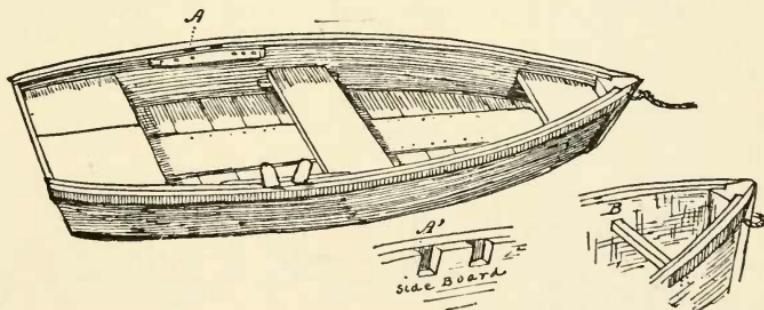
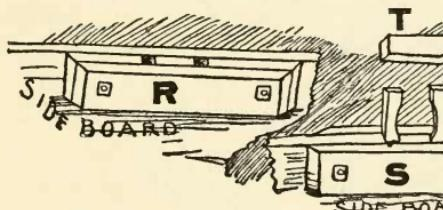
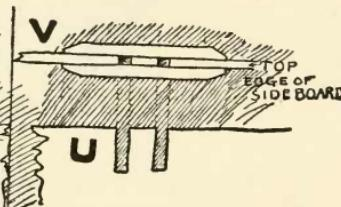

Fig. 191.—Finished skiff.
Fig. 203.
Fig. 204.
Turn the boat upside down, and it will be discovered that the outlines of the bottom form an arch from stem to stern. If left in this shape the boat will sink too deep amidship. Remedy the defect by planing the bottom edge of both side pieces, reducing the convex form to straight lines in the middle. This will allow the bow and stern to sheer, but at the same time will make the central part of the bottom flat, and, by having less to drag through the water, make it easier to row. Nail the bottom-boards on crosswise, and as, on account of the form of the boat, no two boards will be of the same size, they must be first nailed on and the projecting ends sawed off afterward. The centre brace may now be taken out and a long bottom-board nailed to the centre of the bottom upon the inside of the boat (Fig. 191). Cut a small cross-piece
(B, Fig. 191) so that it will fit across the bow 3 inches below the top of the side-boards. Nail it in place, driving the nails from the outside of the side-board through and into the end of the stick B. Saw out a bow seat, and, allowing the broad end to rest on the cross-stick B, fit the seat in and secure it with nails (Fig. 191);
2 inches deep and $1\frac{1}{2}$ inch long in each side-board (A, A¹, Fig. 191). Saw two more notches of the same size 3 inches from the first; these will make the rowlock when the side strips have been fastened on.
These strips should each be made of 1-inch plank, 2 inches wide and an inch or two longer than the side-boards. Nail the strips on the outside of the boat flush with the top of the side-boards, making a neat joint at the stern-piece, as shown in the illustration (Fig. 191). Cut two short strips to fit upon the inside at the rowlocks and fasten them firmly on with screws (Fig. 191, A). Next cut two cleats for the oarsman's seat to rest upon. Nail them to the side-boards amidship a little nearer the bottom than the top, so that the seat, when resting upon the cleats, will be about half the distance from the top edge to the bottom of the side-boards. Let the aft end of the cleats be about 6 feet 2 inches from the stern. Make thole-pins of some hard wood to fit in the rowlocks, like those described and illustrated by Figs. 203 and 204.
If you are building your boat out of the convenient reach of the hardware shop, you must make your own rowlocks. Fig. 200 shows the crude ones formerly used by the raftsmen for the Yankee pines, and Figs. 203 and 204 show rowlocks made with the oaken or hard-wood thole-pins fitting in holes cut for that purpose in the form of notches (U, Fig. 204) in the side of the boat, or as spaces left between the blocks, as shown by R (Fig. 203). When the side-boards A, A of the boat are notched a cleat of hard wood 5 or 6 inches wide, and extending some distance each side of the side-boards, must be used, as is shown by diagram V (Fig. 204) and Fig. 203. The diagram R (Fig. 203) explains itself; there is a centre block nailed to the side-board and two more each side, leaving spaces for the thole-pins T (Fig. 203) to fit and guarded by another piece (R) bolted through to the sides.
If bolts are out of your reach, nails and screws may act as substitutes, and Fig. 204 will then be the best form of rowlock to adopt.